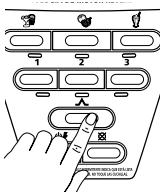

Fig. 26
1. Press and hold the pulse button \wedge (Fig. 26).